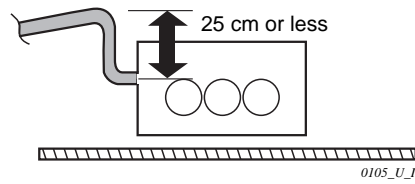

Fig. 3-91
- If it is necessary to increase the height of the drain pipe somewhat, the portion directly after the connection port can be raised a maximum of 25 cm. Do not raise it any higher than 25 cm, as this could result in water leaks. (Fig. 3-91)